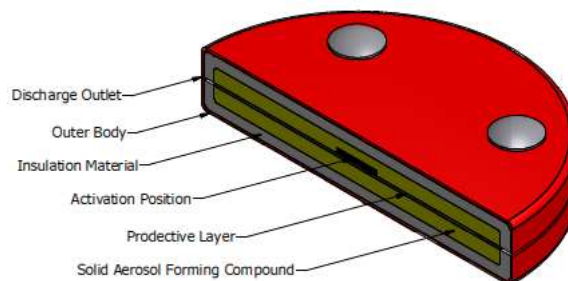
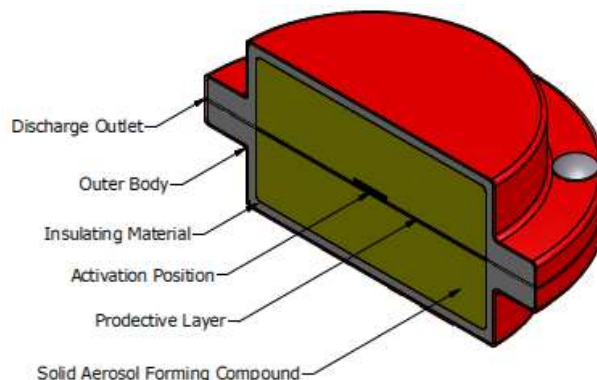

Figure 1. Cross-section of DSPA 11-1 (Comparable to DSPA 11-2 and DSPA 11-3)
Figure 2. Cross-section of DSPA 11-4
- ❖ An electrical activation device “build-in type” shall be capable of operating via an electrical input and arranged to activate the aerosol-forming compound at this position (See Figure 1 and Figure 2). This applies to DSPA generator types 2-4-1, 11-1, 11-2, 11-3, 11-4, 11-7, 12-1, 12-2, 12-3, 12-4, 12-5, FE100, 0.90-2 and 0.45-2.